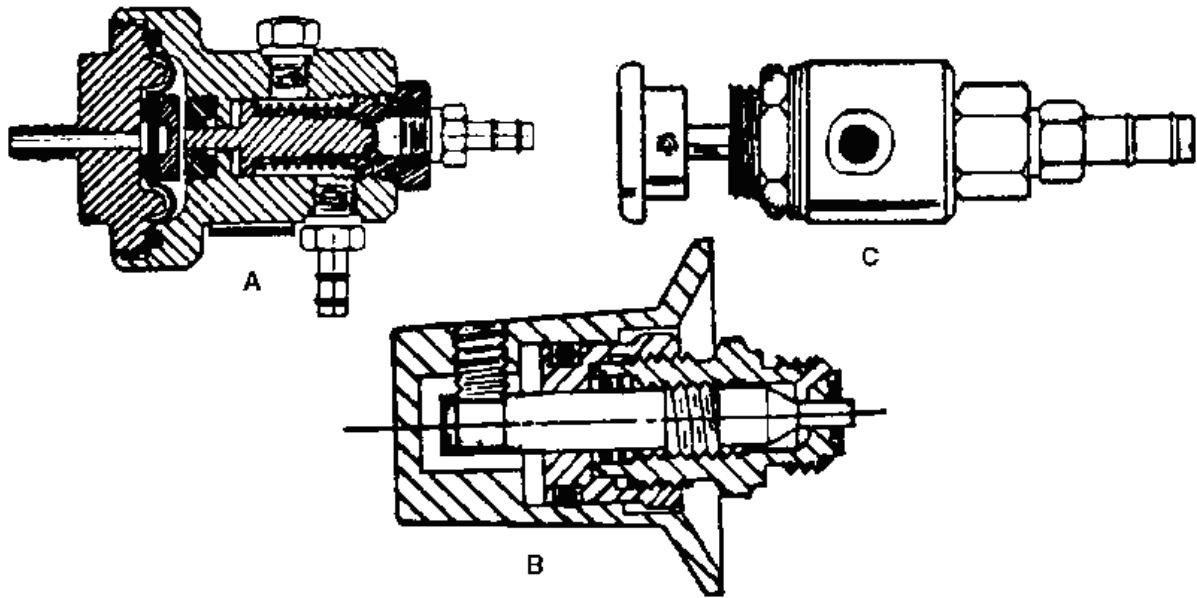

Figure 1-6. Inspiratory-interrupter switch(A), inspiratory time-limit control (B), and reset button (C).
(5) Inspiratory-interrupter switch. A fourth outlet from the inlet manifold delivers source gas to the inlet of the inspiratory-interrupter switch (A in figure 1-6), which consists of a spring-loaded plunger and diaphragm within a closed housing. During the expiratory phase of controlled ventilation and during spontaneous breathing, the interrupter switch performs two functions when source gas flow through: the first is to load the diaphragms of the compound-lockout cartridge and the second is to power the jet of the expiratory venturi located in the breathing circuit.
(6) Inspiratory time-limit control. Gas flows from the inspiratory-interrupter switch through the duckbill-check valve to the inspiratory time-limit control (B in figure 1-6), an unrestricted needle valve. The needle valve provides a means of interrupting the inspiratory phase after the preset inspiratory-time interval has elapsed. This allows the compound-lockout cartridge to drain. Flow through the needle valve from the inspiratory-interrupter switch is constant during spontaneous breathing and occurs during the expiratory phase of IMV. Gas also flows from the inspiratory-interrupter switch to the expiratory flow gradient control, which controls the expiratory venturi in the shuttle valve to assist in exhalation. During the spontaneous breathing mode, the expiratory flow gradient control can be used to precisely control pressure within the breathing circuit. This is done by using the expiratory venturi passively, to overcome mechanical resistance caused by gas flow through the breathing circuit.
(7) Reset button. Gas pressure trapped by the venturi jet side of the compound-lockout cartridge and held behind the inspiratory-interrupter switch diaphragm (holding it closed) can be dumped to atmosphere by pressing the reset button (C in figure 1-6). This allows the compound-lockout cartridge to refill after lockout occurs.